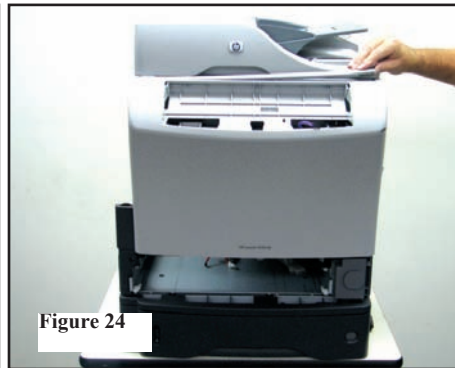

Figure 24
22. Remove filler strip at front side of ADF. (Figure 24)